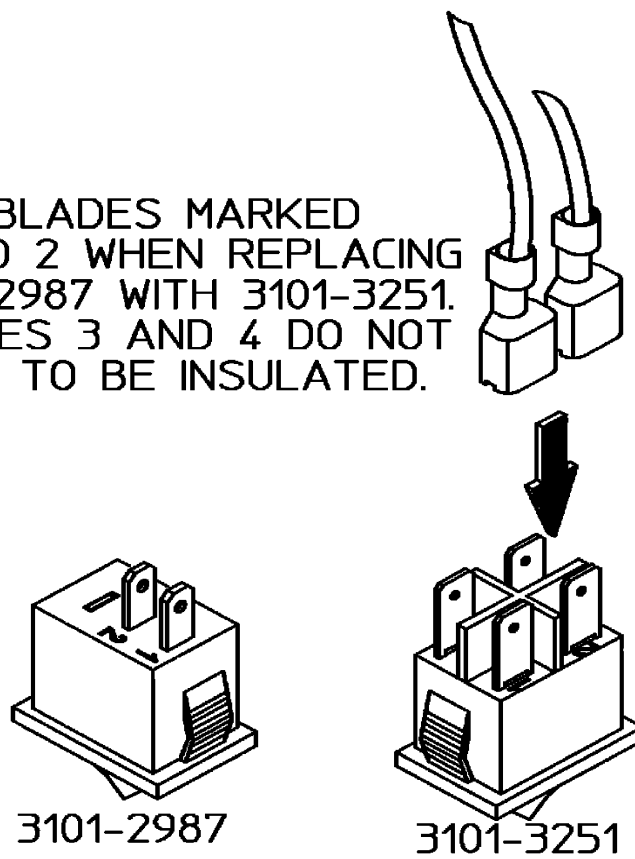

Figure 1
1. When installing the new switch there are four quick connect blades instead of two (as on the old switch). use the blades marked “1” and “2” on the switch at the base of the blades. See figure 1.